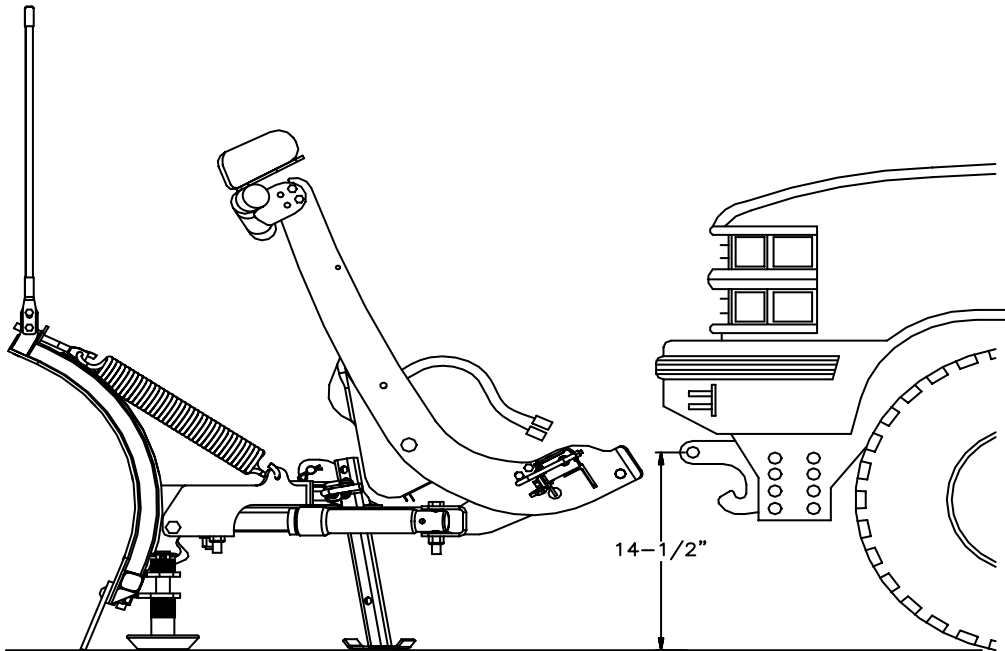

Figure 2
1. Remove transfer case skid plate if applicable. Remove the plastic air dam from the bumper. Remove the mounting hardware connecting the bumper to the driver side of the frame while leaving the passenger side attached. Align the two vertical holes on Push Beam Support Plate (62B) with the bumper mounting holes on the outside of the frame. Attach Push Beam Support Plate (62B) to the frame using the existing Bolt Bar (BB) and existing Nuts (AA). If the vehicle is equipped with tow hooks the Push Beam Support Plate (62B) *must* be attached to the frame using ½"-13 X 5" Hex Head Bolts (G), ½" Flat Washers (H), and ½"-13 Nylon Lock Nuts (B) instead of the existing bolts. Adjust the bumper to its highest height before tightening the nuts. Insert Square Washer (103) into the frame of the truck through the Vertical Slot on the inside of the frame. Insert Bolt Bar (102) down through the Top Hole of the frame rail through Square Washer (103), through the bottom of the frame rail, and then through the aligned horizontal mounting hole on Push Beam Support Plate (62B). Install ½"-13 Hex Head Nylon Lock Nut (B) onto Bolt Bar (102). Make sure the driver side is secure to the frame and then repeat the process on the passenger side while leaving the driver side attached. Secure both plates before proceeding. NOTE: While Push Beam Support Plates (62A & 62B) have two mounting holes on the horizontal plate, only the single aligned hole will be utilized during installation.
3. Insert Nut Plate (101) inside the frame crossmember by sliding it between the top of the frame crossmember and swing arm. Align the holes with the large oval holes in the bottom of the skid plate. Assemble Skid Plate Attachment (80) onto the vehicle's skid plate using 5/8" Split Lock Washers (F) and 5/8"-11 X 2" Hex Head Bolts (E). Center Skid Plate Attachment (80) and finger tighten the 5/8"-11 X 2" Hex Head Bolts (E).
4. Assemble Angle Brackets (75A & 75B) onto the outside of the tabs on the bottom of the Skid Plate Attachment (80) using two ½"-13 X 1-1/2" Hex Head Bolts (A) and ½"-13 Hex Head Nylon Lock Nuts (B) on each side. Finger tighten the assembly.
5. Assemble Push Beam Assembly (62) between Push Beam Support Plates (62A & 62B) using four ½"-13 X 1-1/2" Hex Head Bolts (A) and ½" -13 Hex Head Nylon Lock Nuts (B) on each side.
NOTE: The proper height adjustment for Push Beam Assembly (62) is 14-1/2" from the ground to the center of the pin receiving hole (see Figure 2). Leave hardware finger tight. Assemble Angle Brackets (75A & 75B) onto the tabs on the back side of Push Beam Assembly (62) using two ½"-13 X 1-1/2" Hex Head Bolt, GR8 (C) and ½"-13 Hex Head Top Lock Nut, GRC, (D) on each side.
6. For model year 2004 vehicles, the frame crossmember does not have existing holes. Align the fully assembled undercarriage onto the frame crossmember. Make sure the Skid Plate Attachment (80) contacts the front of the frame crossmember and is centered. Use the existing holes in Skid Plate Attachment (80) to mark and drill two 11/16" holes in the frame crossmember. Insert Nut Plate (101) inside the frame crossmember by sliding it between the top of the frame crossmember and swing arm. Mount Skid Plate Attachment (80) using Nut Plate (101), 5/8" Split Lock Washers (F), and 5/8"-11 X 2" Hex Head Bolts (E).